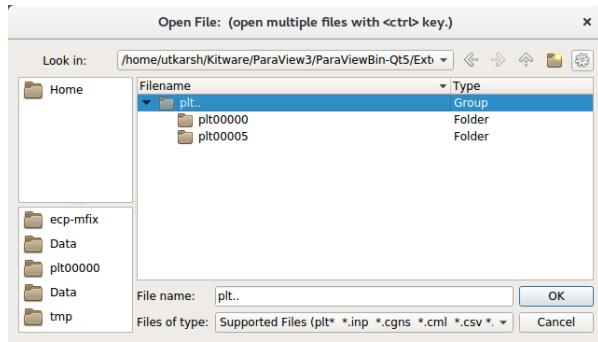

Fig. 16.2: : File dialog in ParaView showing a group of plotfile directories selected
2. Navigate to your run directory, and select the fluid or particle plotfile. Note that you can either open single/multiple plotfile(s) at once by selecting them one by one or select an ensemble of file, labelled as `plt..` and indicated as a Group in the “Type” column of the file explorer (see Fig. 16.2). In the later case, Paraview will load the plotfiles as a time series. ParaView will ask you about the file type – choose “AMReX/BoxLib Grid Reader” or “AMReX/BoxLib Particles Reader”.
1. Run ParaView v5.7, and select then “File” → “Open”. You will see a combined “plt..” group. Click on “+” to expand the group, if you want inspect the files in the group. You can select an individual plotfile directory or select a group of directories to read them a time series, as shown in Fig. 16.2, and click OK. ParaView will ask you about the file type – choose “AMReX/BoxLib Particles Reader”.